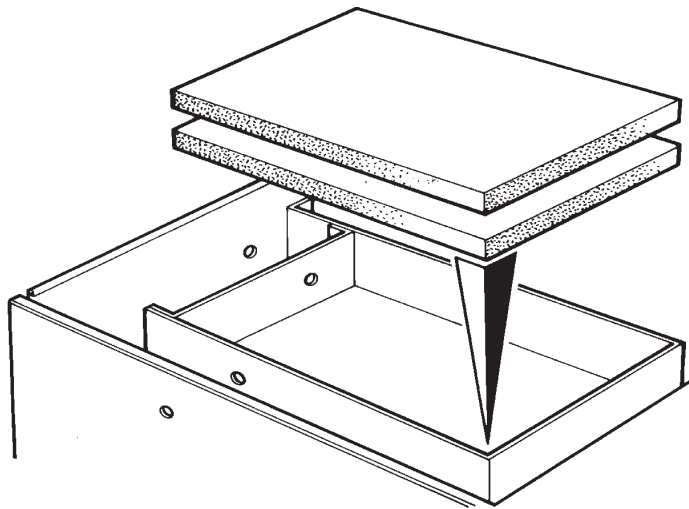

Fig. 6
6. Non-Electric Agas only - Fit 2 layers of insulation blanket JPAD210722 (supplied with hob) on top of the oven roof. (See Fig. 6).